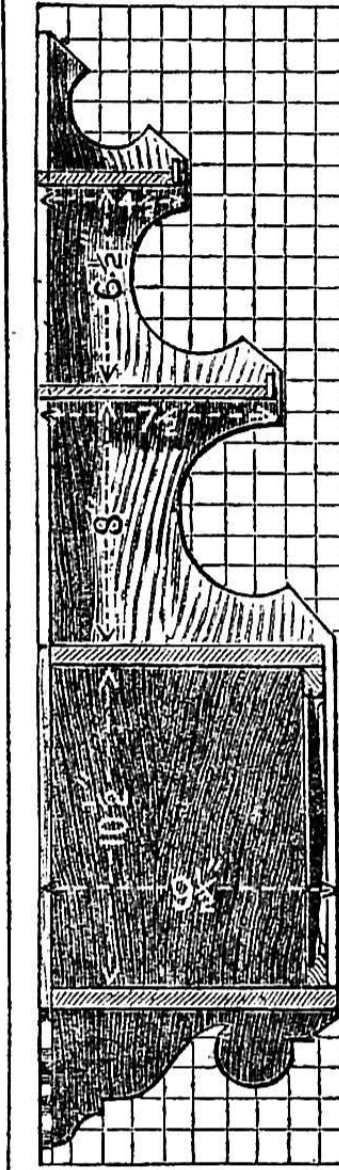

Fig. 1.—Sectional Elevation.
*Construction.*—Fig. 1 is a sectional drawing, not represented here to scale, but divided into squares, so that the reader may easily set it out to any size. The ends of the shelves are housed into the sides—which clean up to full  $\frac{1}{2}$  in. thick—to a depth of  $\frac{5}{16}$  in., and are glued. As the bottom shelf is the full width of the side, it should be only cut in  $\frac{1}{4}$  in. deep at the front and the beads on shelf and side mitred.
I HAVE commenced with a common cow lodge such as is to be found in every farm-yard. Fig. 1 is the front elevation, showing the roof in skeleton—that is, before the tiles are on. It is built entirely of wood, except the quoins (A, A), which are brick, and the foundation walls (B, B), which are also brick: there are many lodges without even this, the posts being put into the ground, and the sills laid on the surface, but the better job is as here shown: brick foundations carried 2 ft. out of the ground for the sills to rest on, and brick quoins the same height to receive the bottom of posts.